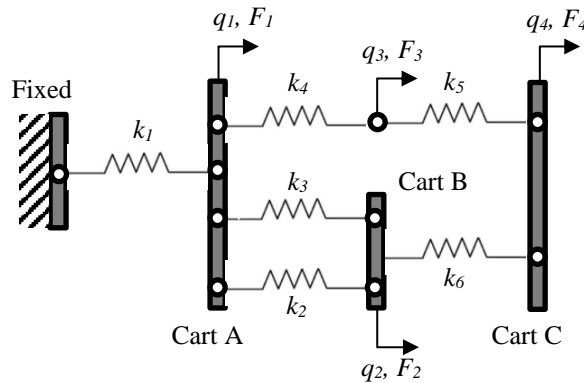

Figure 2
2. (a). **Figure 2** shows three carts connected to each other by six springs. Derive the global system matrix $[K][q] = [F]$ of the spring system by using the principle of minimum potential energy.